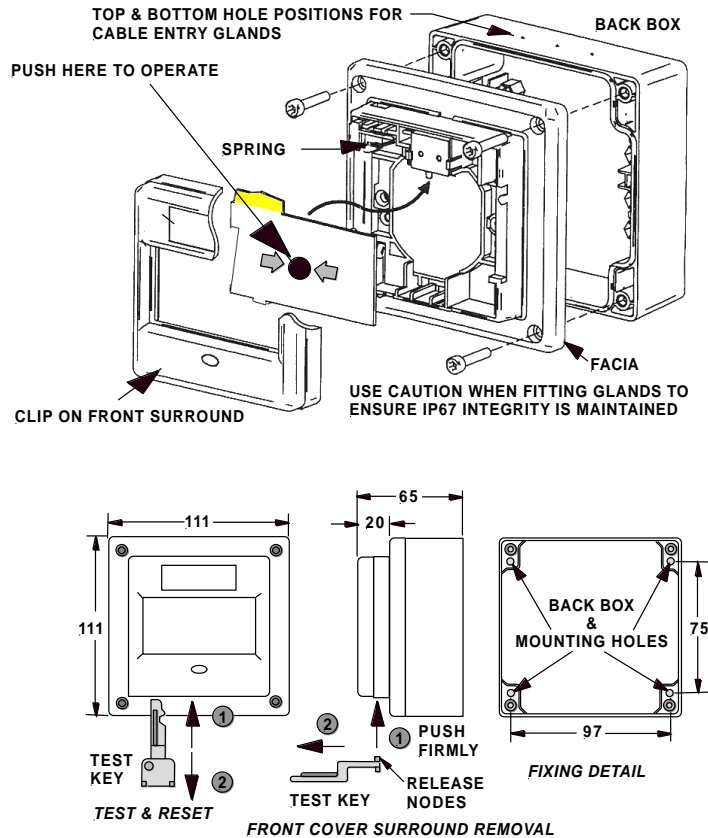

Figure 2: General Mounting diagram
3. Reset the element by firmly pushing the key up into the slot in the bottom of the surround as shown in Figure 2.